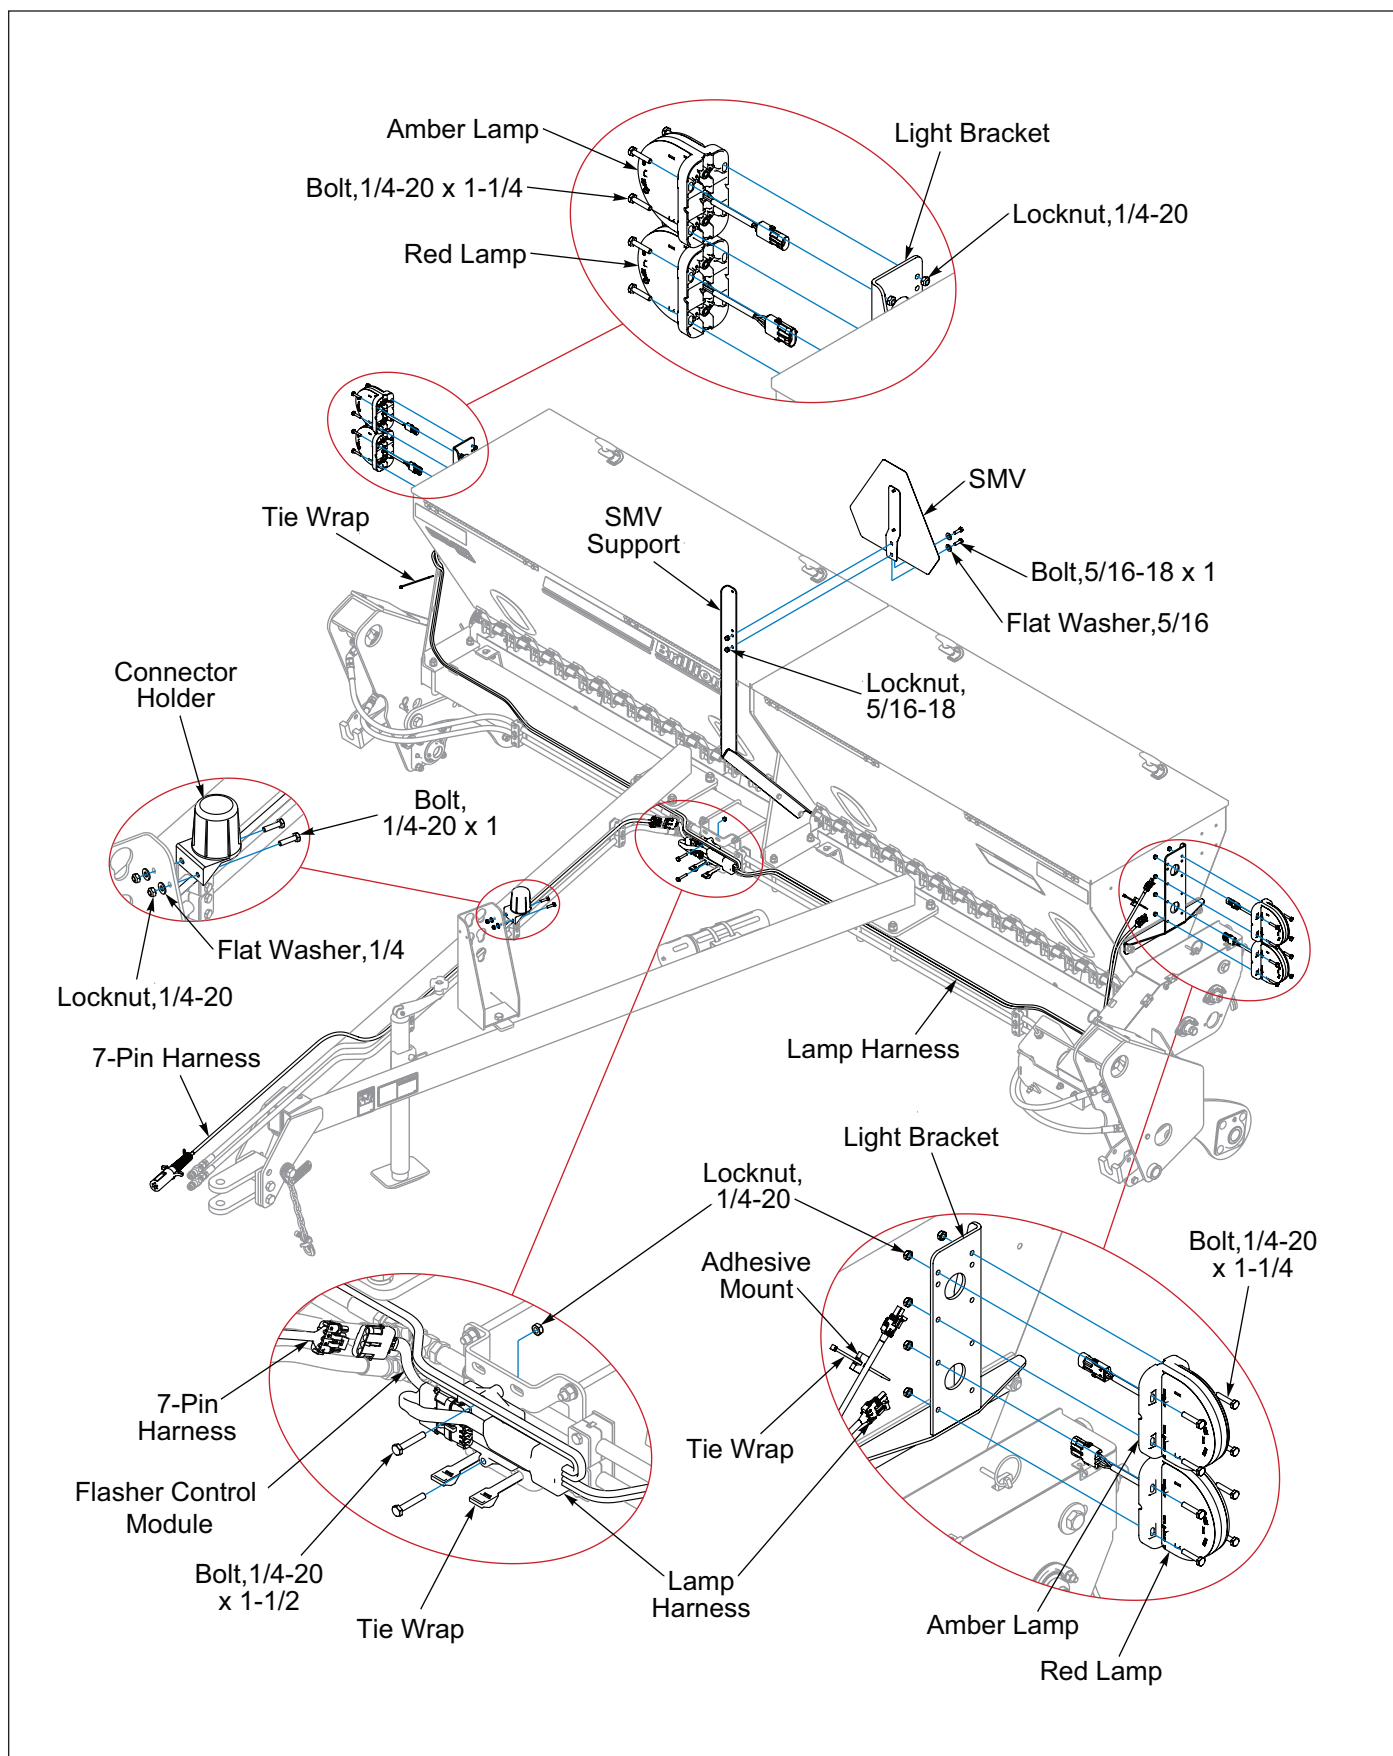

Figure 2-17: Warning Lamp Installation, 8FT and 10FT
1. Attach Amber Lamps to the upper portion of the Light Bracket located at the ends of the Seed Box with 1/4-20 x 1-1/4 Bolts and Locknuts. **See Figure 2-17.**